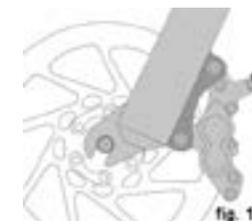
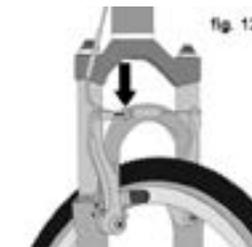

fig. 11
fig. 12
(1) If your bike has rim brakes, disengage the brake's quick-release mechanism to increase the clearance between the tire and the brake pads (See Section 4.C fig. 11 through 15).
(2) If your bike has rim brakes, disengage the brake's quick-release mechanism to increase the clearance between the wheel rim and the brake pads (see Section 4.C, figs. 11 through 15).
(3) On a derailleur gear system, pull the derailleur body back with your right hand.
(fig. 11) and linear-pull brakes (fig. 12), are extremely powerful. Take extra care in becoming familiar with these brakes and exercise particular care when using them.
Most rim brakes have some form of quick-release mechanism to allow the brake pads to clear the tire when a wheel is removed or reinstalled. When the brake quick release is in the open position, the brakes are inoperative. Ask your dealer to make sure that you understand the way the brake quick release works on your bike (see figs. 12, 13, 14 & 15) and check each time to make sure both brakes work correctly before you get on the bike.